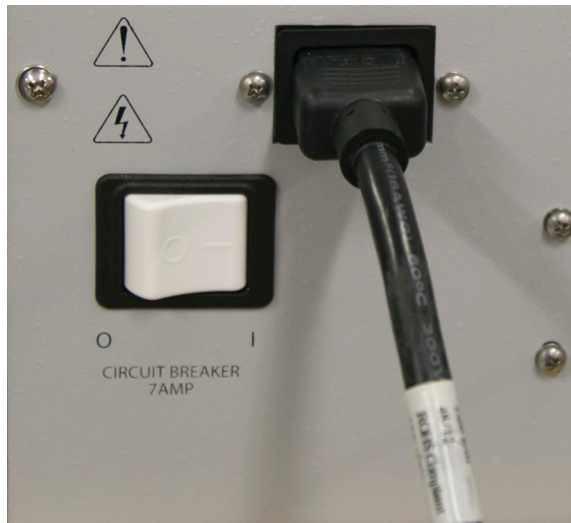

Figure 1-2 Location of power cord for the ACCQPrep
1.5 Safety Components The power cord is a safety disconnect for the ACCQPrep HP150 (Figure 1-2).